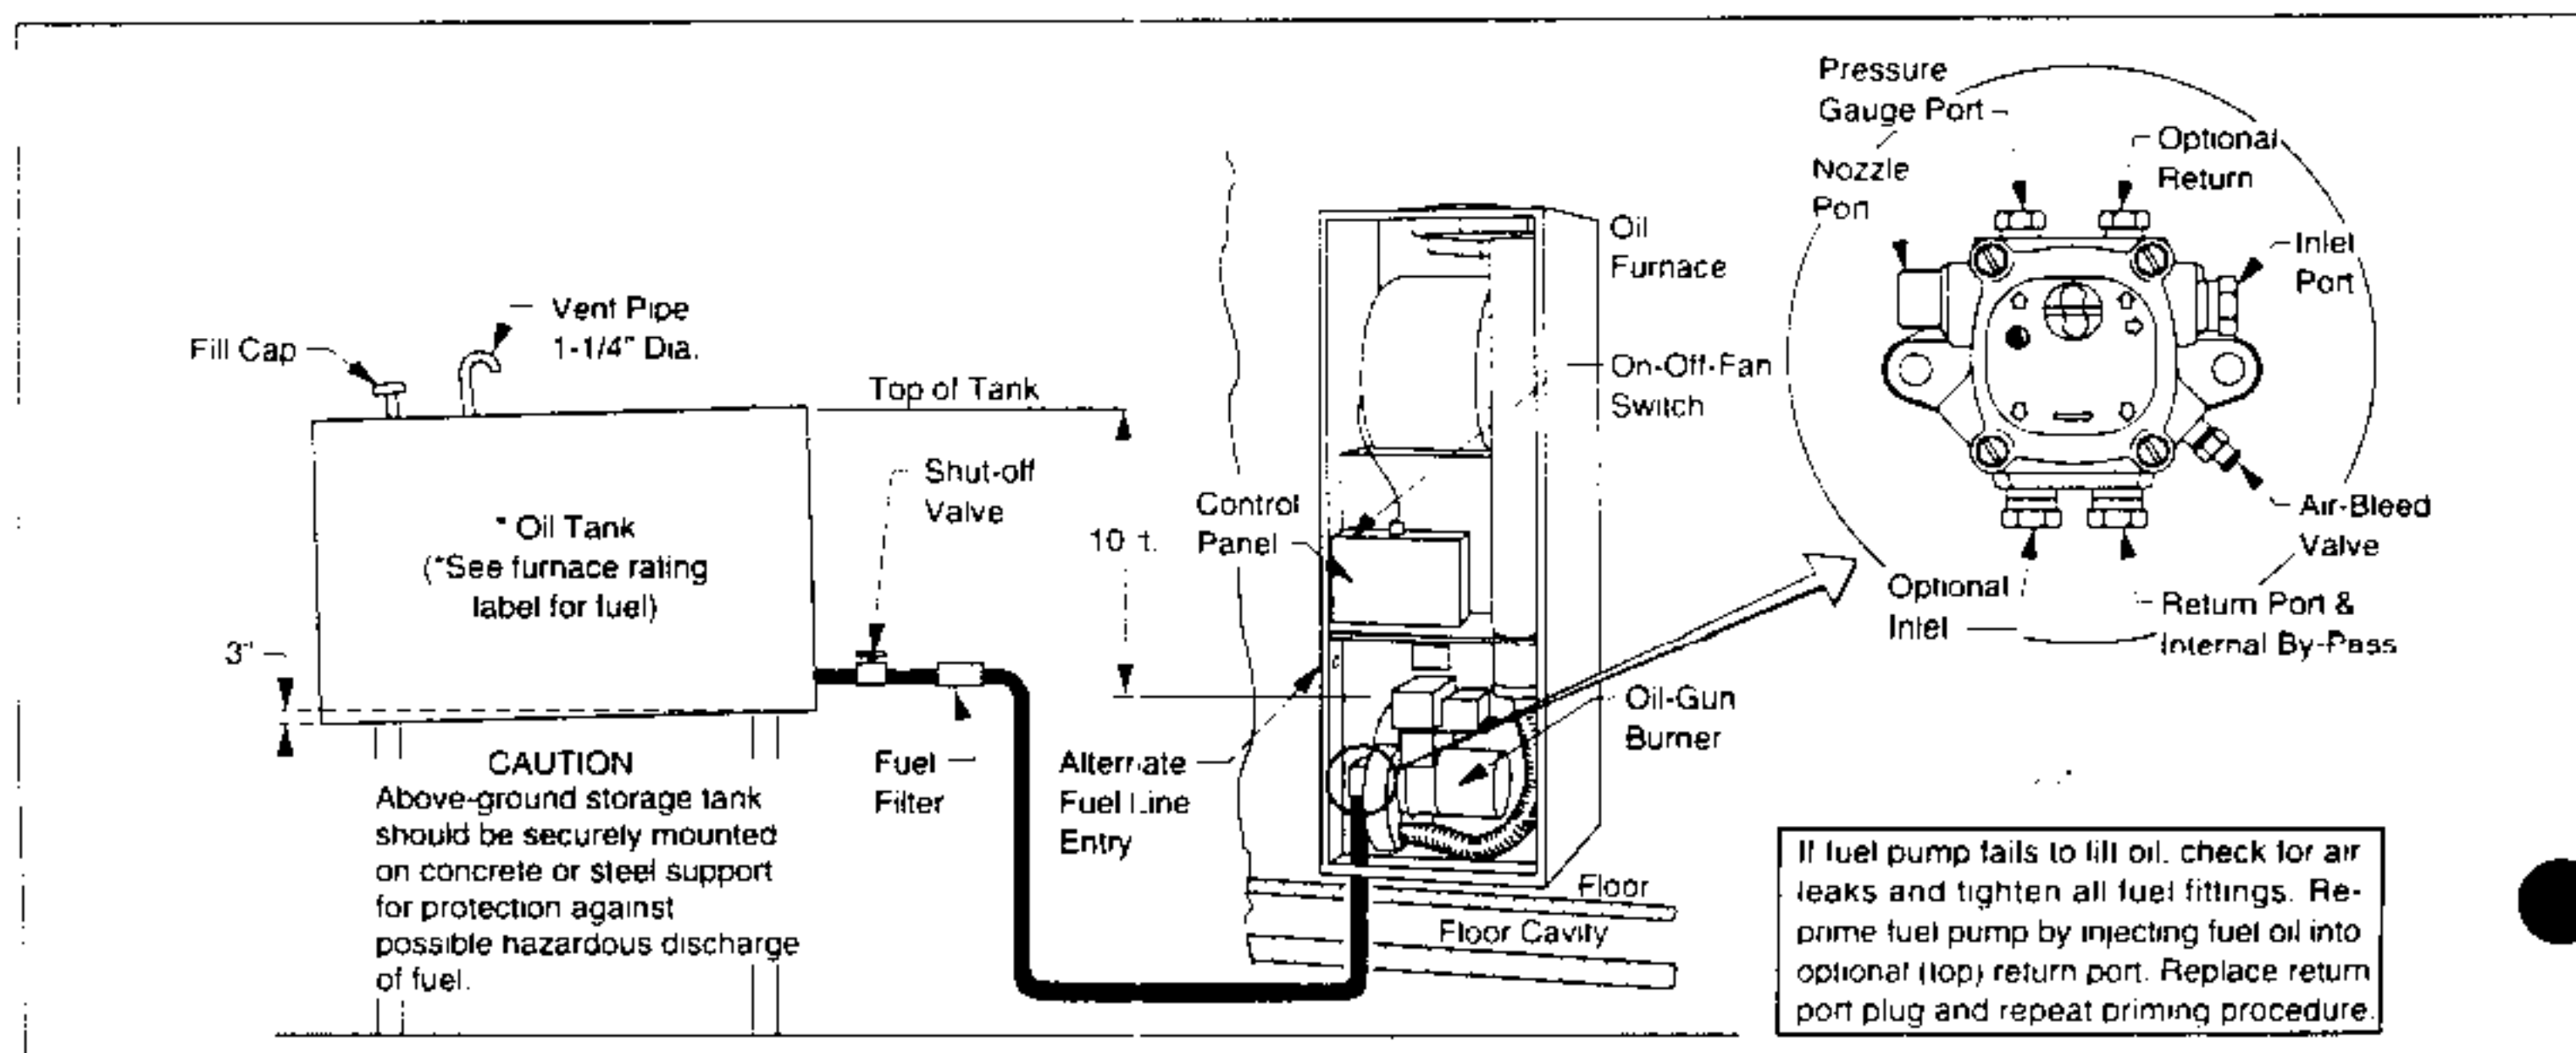

Figure 29. Typical Oil Piping for Above Ground (Single-Line) Supply
- a. Connect a 3/16" (5mm) I.D. hose to air-bleed valve (see Figure 29) and place other end of hose into a suitable container.